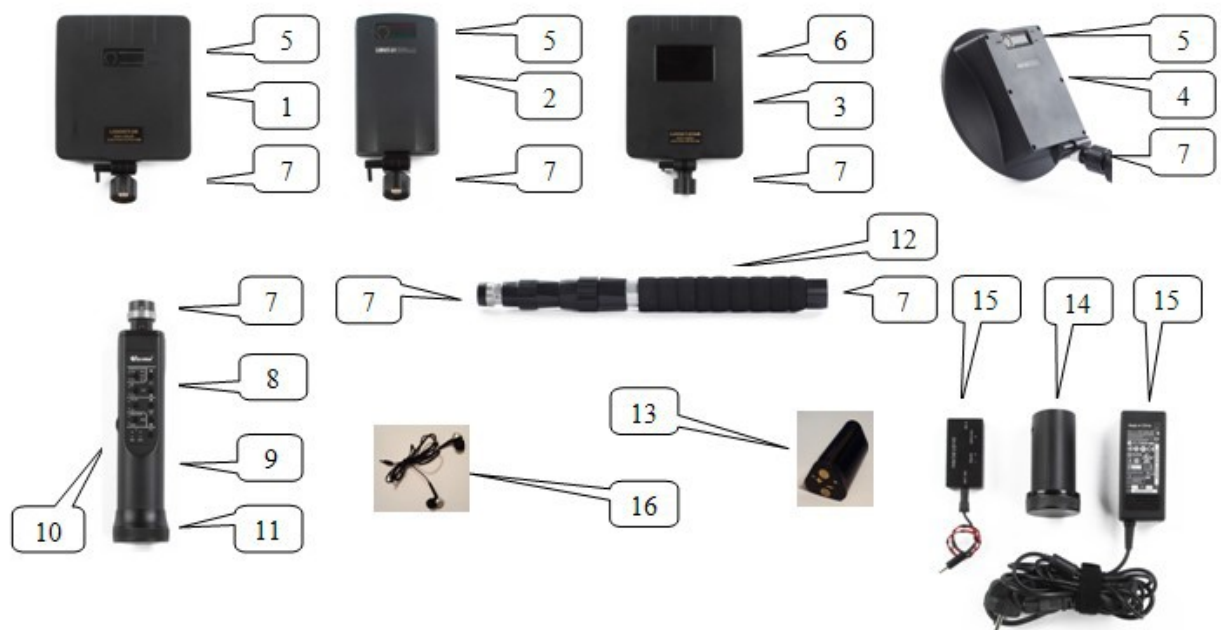

Figure 1, where:
3.3. The appearance of the detector components is shown in Figure 1
LI-ION battery (12V) (see Figure 1) in black color is designed to operate only with the standard charger supplied with the LORNET STAR detector.
NEVER use the LI-ION battery (12V) (see Figure 1) in black color instead of LI-ION batteries (3.7V) in blue color, which are used in the detectors Lornet, Lornet 24, Lornet 36, Lornet 0836.